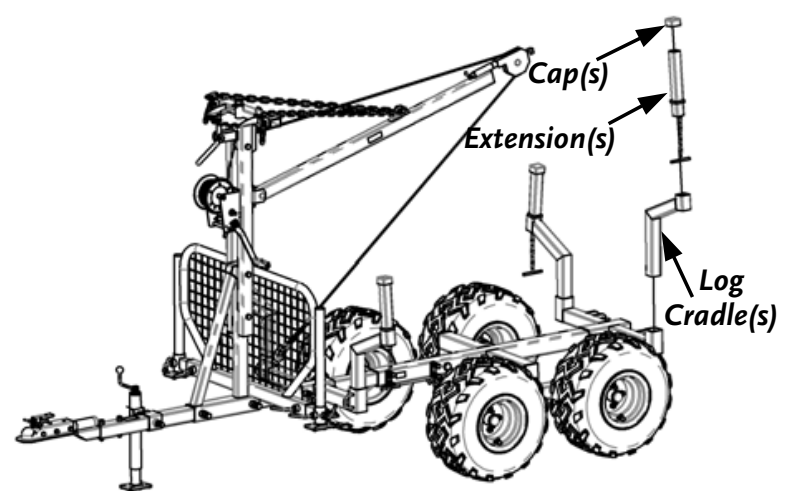

Figure 43
1. Insert the Log Cradles (**Figure 43**), with the angled portion of the Cradles facing outwards.
2. Insert the Log Cradle Extensions by first passing the Chain through the Square opening(s) of the Log Cradles (**Figure 43**).
3. Install the Log Cradle Extension Caps (**Figure 43**).
2. Slide the four Log Cradles into the Slots in the Main Frame (**Figure 43** on page 19). Depending on the height of the Logs in the Trailer, you may want to use the Log Cradle Extensions by sliding them into the Log Cradles (**Figure 43** on page 19).